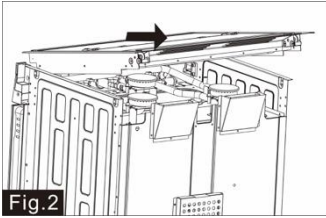

Fig.2
2. Push back the top glass cover assembly a little and lift up to remove it from the range oven. (Fig. 2)